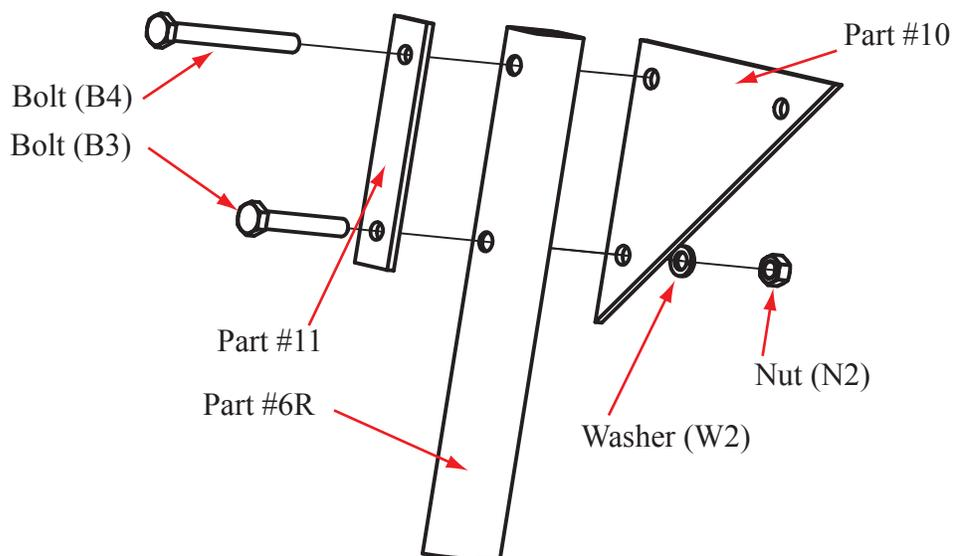

Figure 8
Step 15. Install the corner plate (#10) by aligning the bottom and corner holes of the corner plate with the top two holes on the right vertical tube (#6R). Insert bolt (B3) through the top vertical tube backing plate (#11), then through the lower holes in the right vertical tube (#6R) and the bottom hole of the corner plate. Place a lock washer (W2) and a nut (N2) onto a bolt (B3) and secure a snug fit. (Figure 8)
Step 16. Insert bolt (B4) through the top hole of the top vertical tube backing plate (#11), the top holes of the vertical tube (#6R), and the corner hole of the corner plate. (Figure 8)